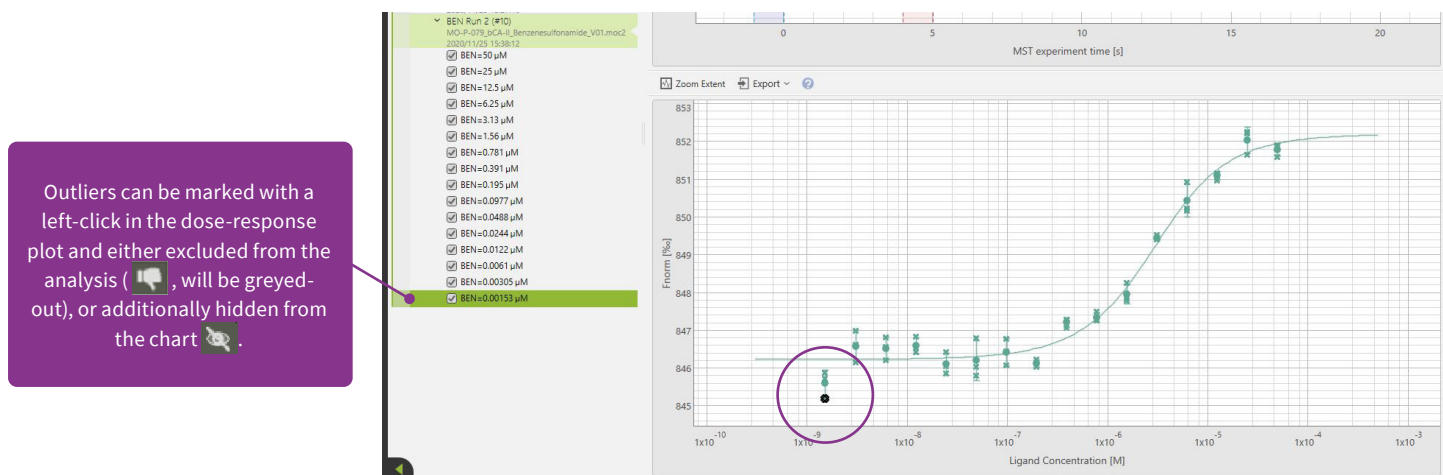

Figure 3: Analysis of binding constants and EC50-values.
**Figure 3** summarizes the data analysis and fitting workflow.